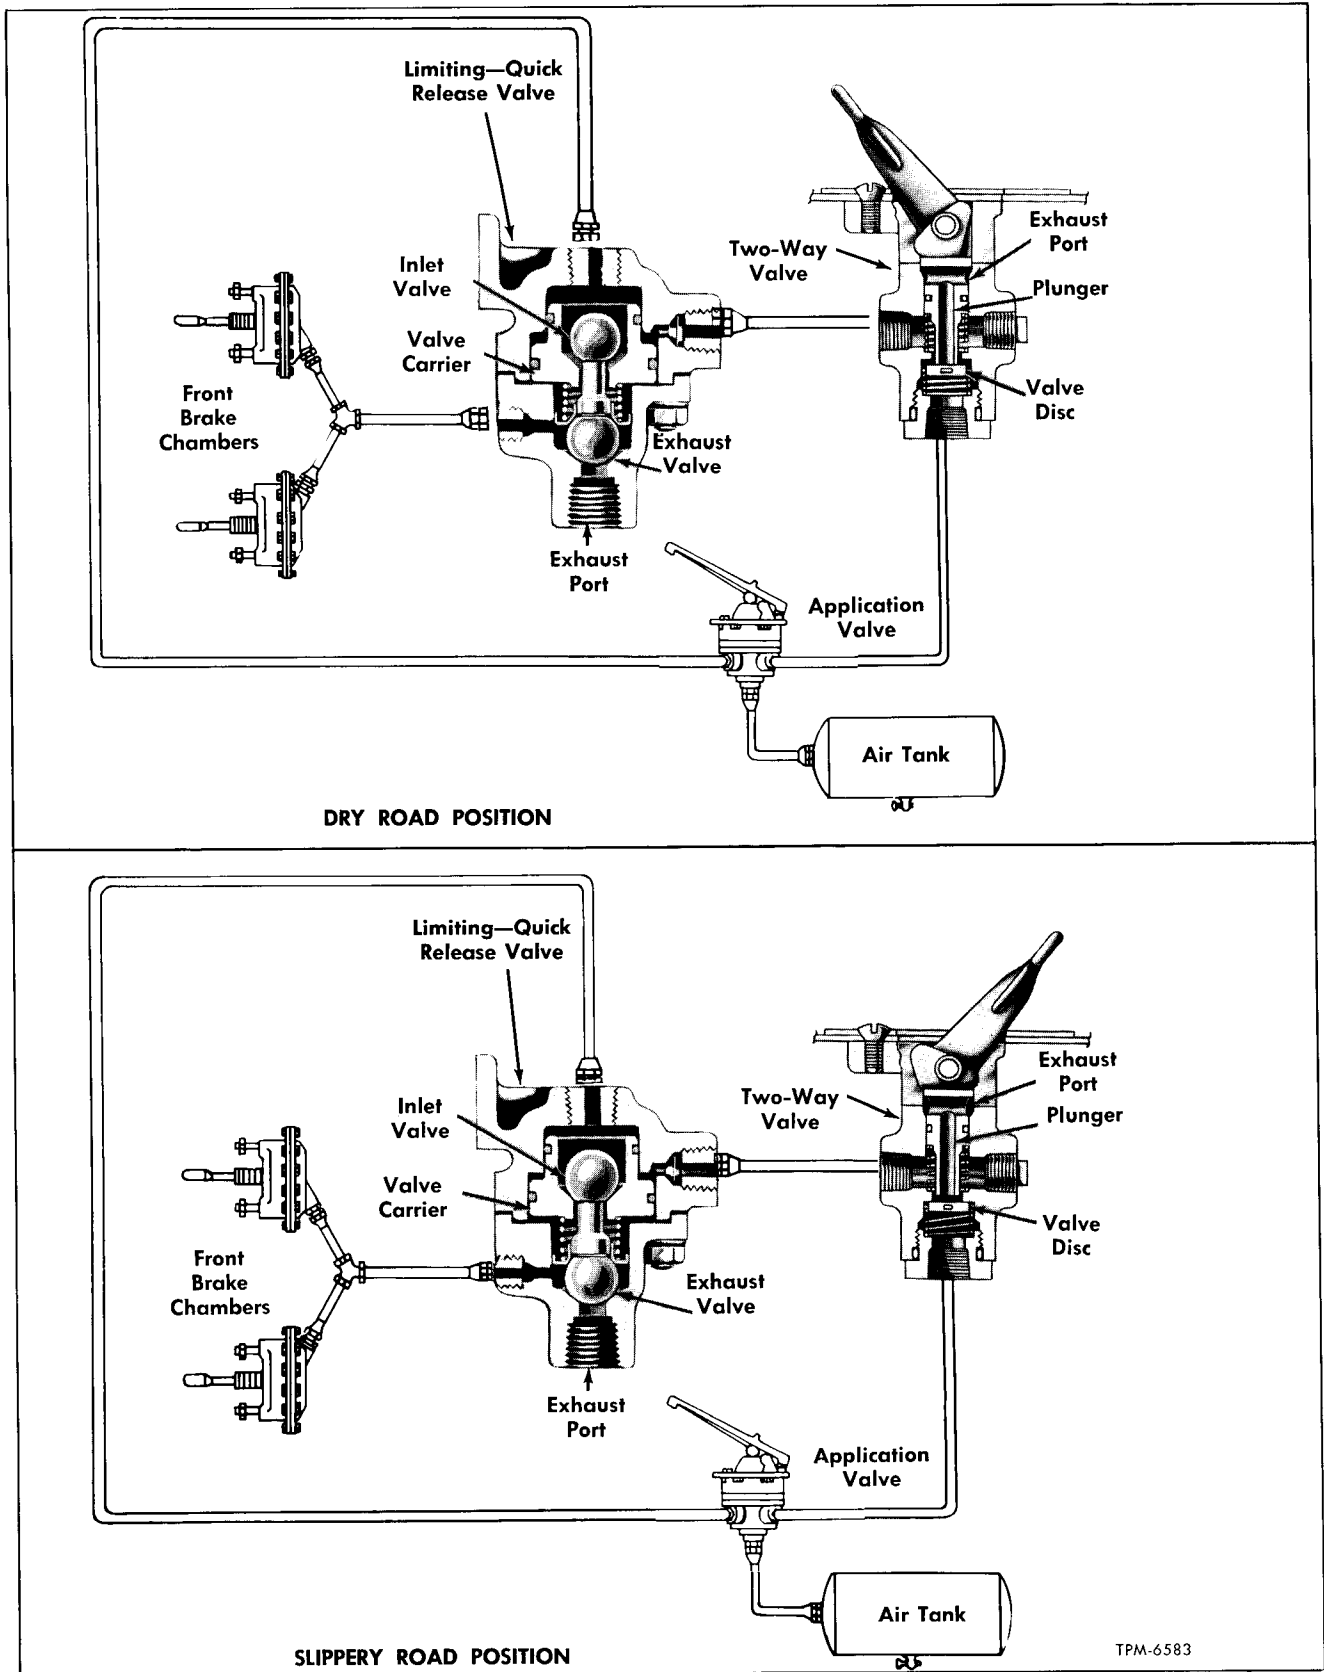
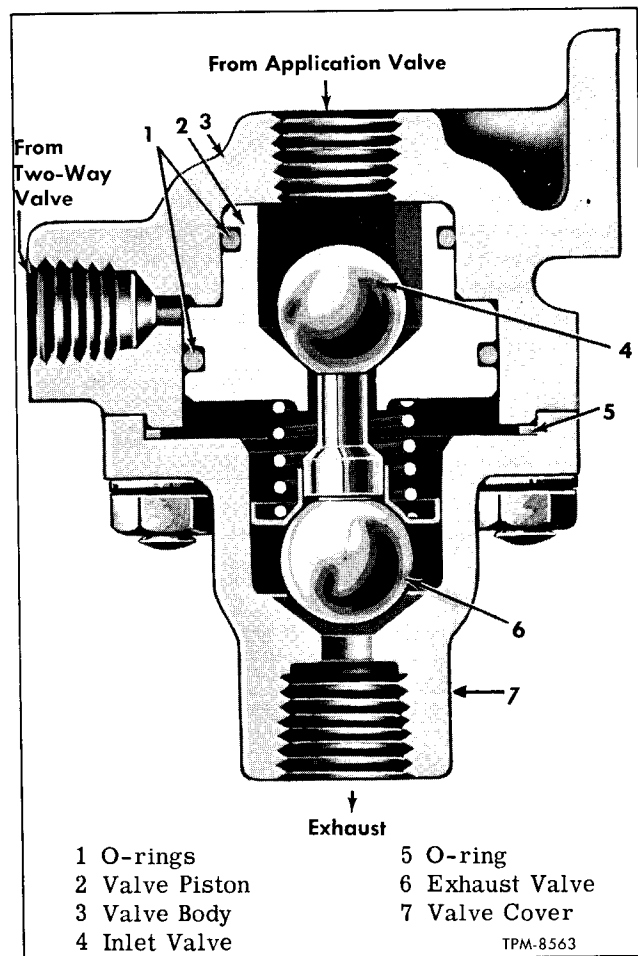
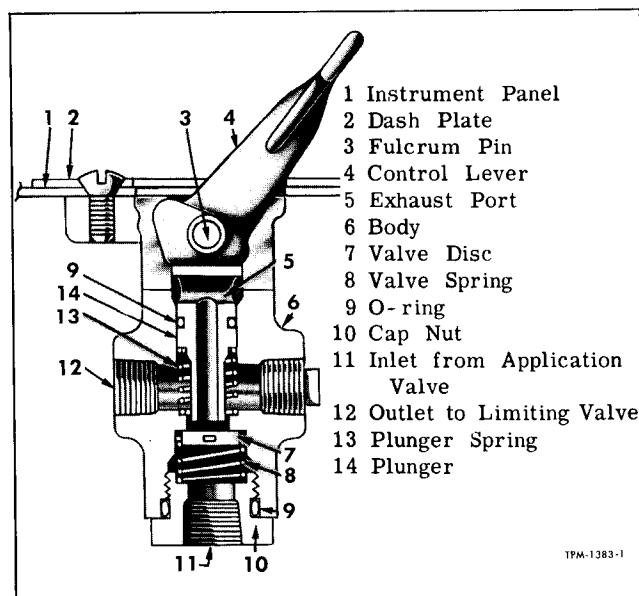

Figure 21—Front Brake Limiting and Two-Way Control Valve Operation
Figure 22—Front Brake Limiting and Quick Release Valve
Figure 23—Two-Way Control Valve (Also I.C.C. Valve)
A combination limiting and quick-release valve (fig. 22) and a two-way control valve (fig. 23) are used in combination on some vehicles as shown in figure 21. This combination delivers full air pressure to front brakes when on dry roads, or at the option of the driver, limits front brake air pressure by half when on slippery roads.
port of the two-way valve and another line connects to the brake valve port at top of limiting quick release valve (fig. 21). Another air line connects side delivery port of the control valve to port opposite the mounting pad of the limiting valve. The two other side ports of the limiting valve are connected to front brake chambers.
1. Dry Roads (Top View, Fig. 21)
2. Slippery Roads (Bottom View, Fig. 21)
LIMITING AND QUICK RELEASE VALVE OVERHAUL (Fig. 22)
TWO-WAY CONTROL VALVE OVERHAUL (Fig. 23)
shown in figure 23 are identical except for wording on dials. The following key numbers refer to figure 23. Valve is in "OFF" position, with plunger (14) raised and valve disc (7) against valve seat in body. Air supply line from front air tank is connected to inlet port (11) in cap nut (10). Outlet line to rear brake relay valve is connected to outlet port (12).